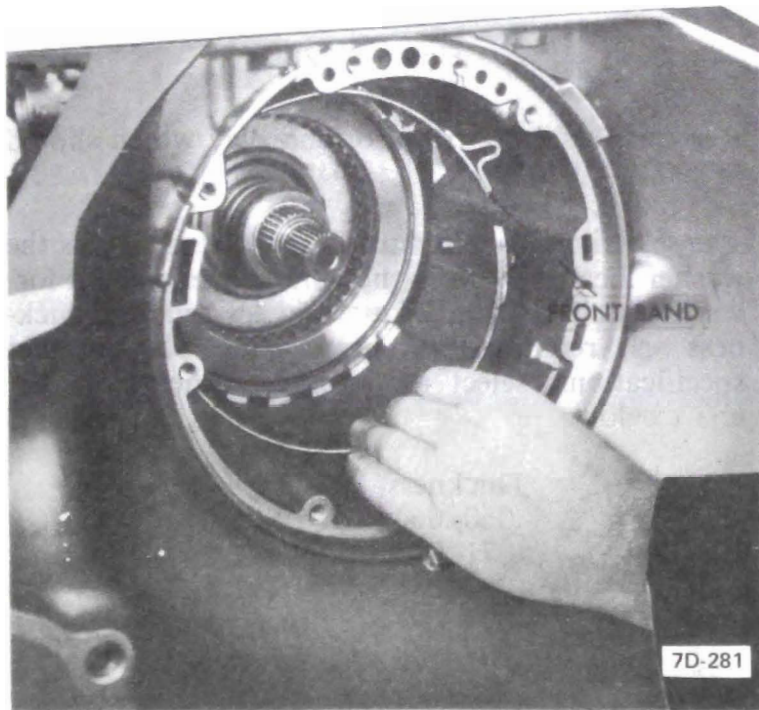

Figure 7D-281
17. Install the direct clutch and intermediate sprag assembly. It will be necessary to twist the housing to allow the sprag outer race to index with the composition clutch plates. The housing hub will bottom on the sun gear shaft. See Figure 7D-282.